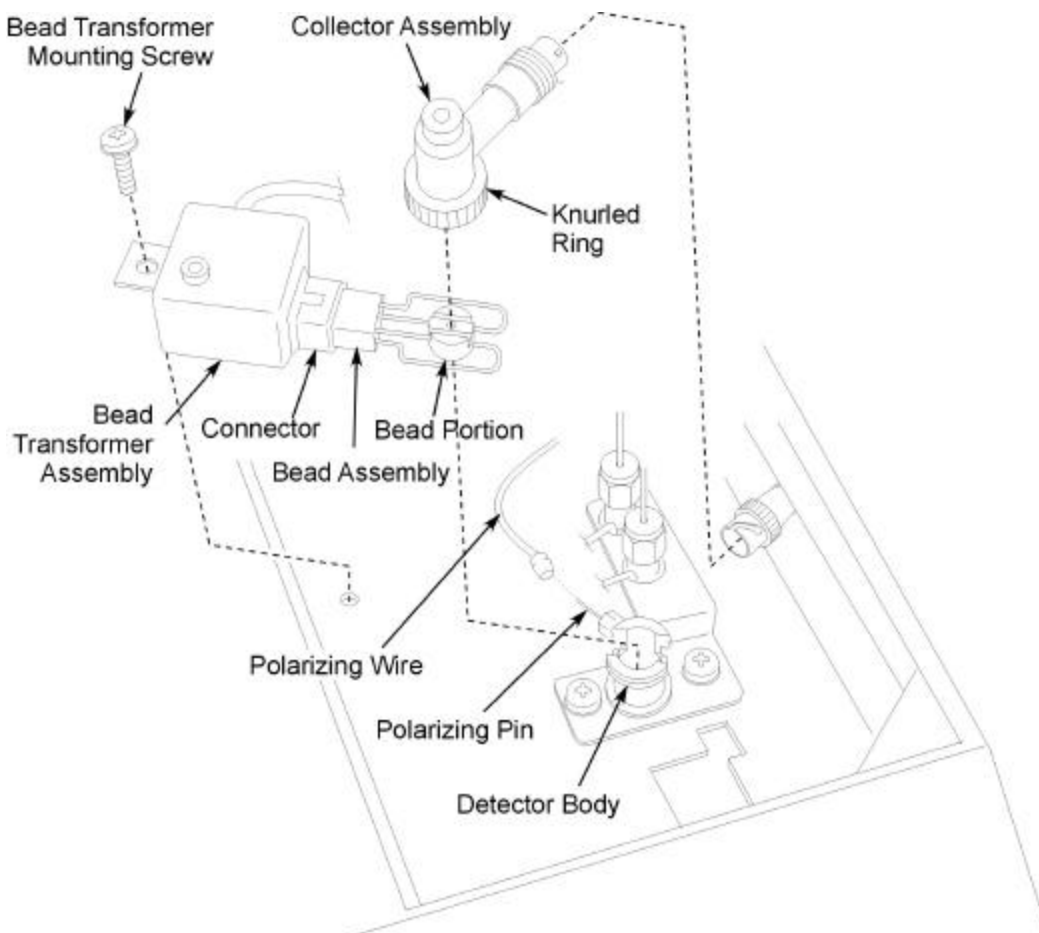

Figure 2-32 Exploded view of the Nitrogen Phosphorus Detector.
6. Carefully insert the bead portion of the bead assembly in the detector body as shown in Figure 2-32.